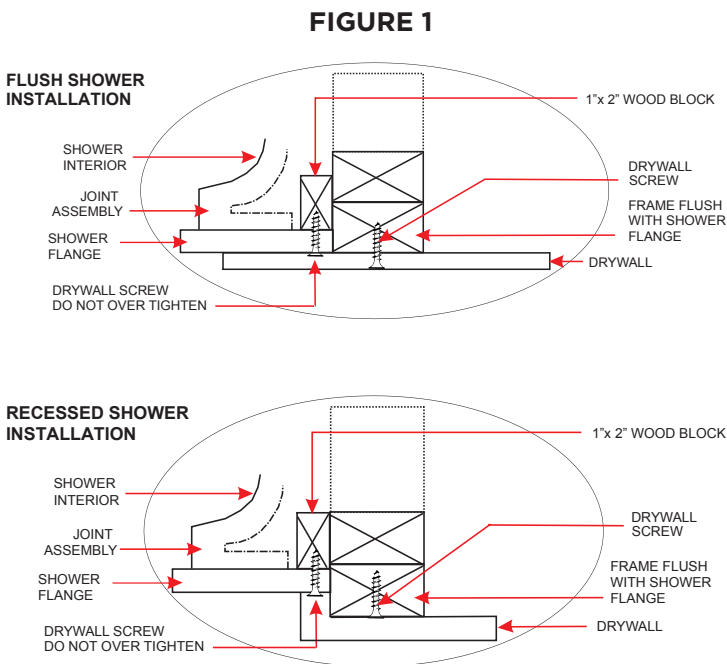

FIGURE 1
The shower/tubshower may be installed flush or recessed. (**Figure 1**)
5. Pre-drill & countersink the holes on the flange to accept drywall screws for fastening. (**Figures 1 & 4**)